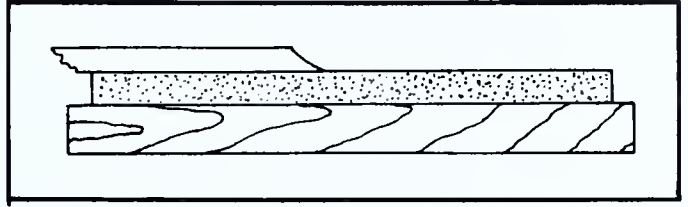

FIG. 144 — *Removing Wire Edge*
5. Now turn the plane iron over on the stone with its bevel side up, and lay it flat on the stone (Fig. 144).